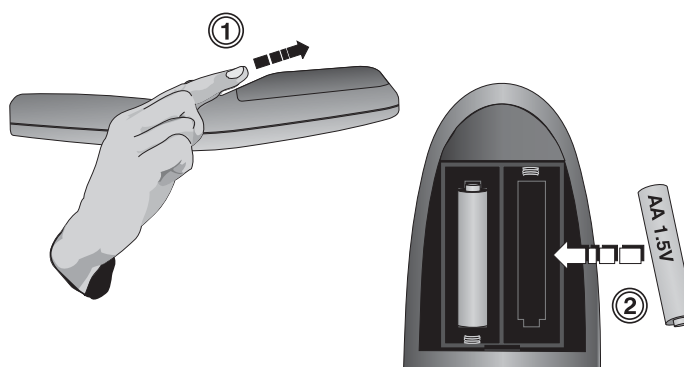

Figure 4.1. Replacing remote batteries
The optional IR remote uses two AA size, 1.5V alkaline batteries. To replace the batteries simply turn the remote over and push out the cover using the finger groove, as shown in (1) Figure 4.1.